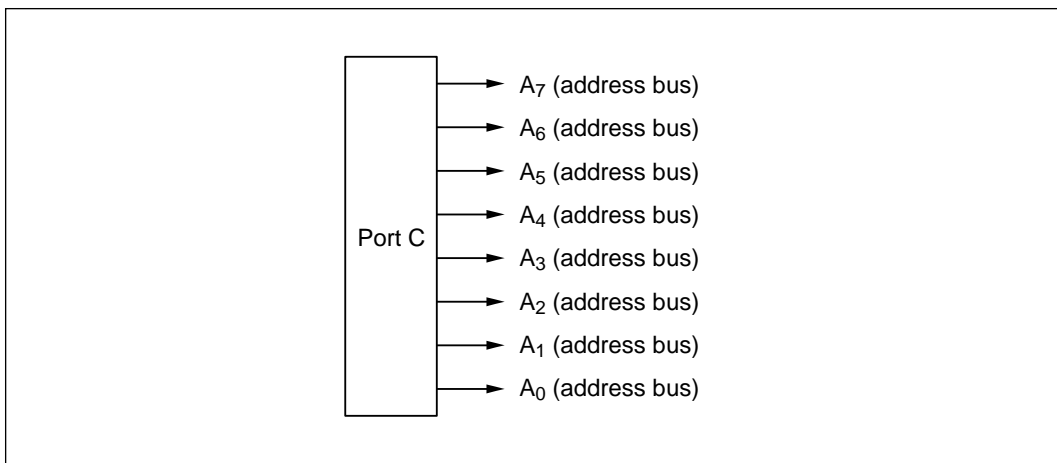

Figure 10-84 Pin Functions in Modes 1, 3, 5, and 6
(1) Pin Functions in Modes 1, 3, 5, and 6: Port C is used for address output (A₇ to A₀). The PCDDR settings are ignored. Figure 10-84 shows the pin functions in modes 1, 3, 5, and 6.